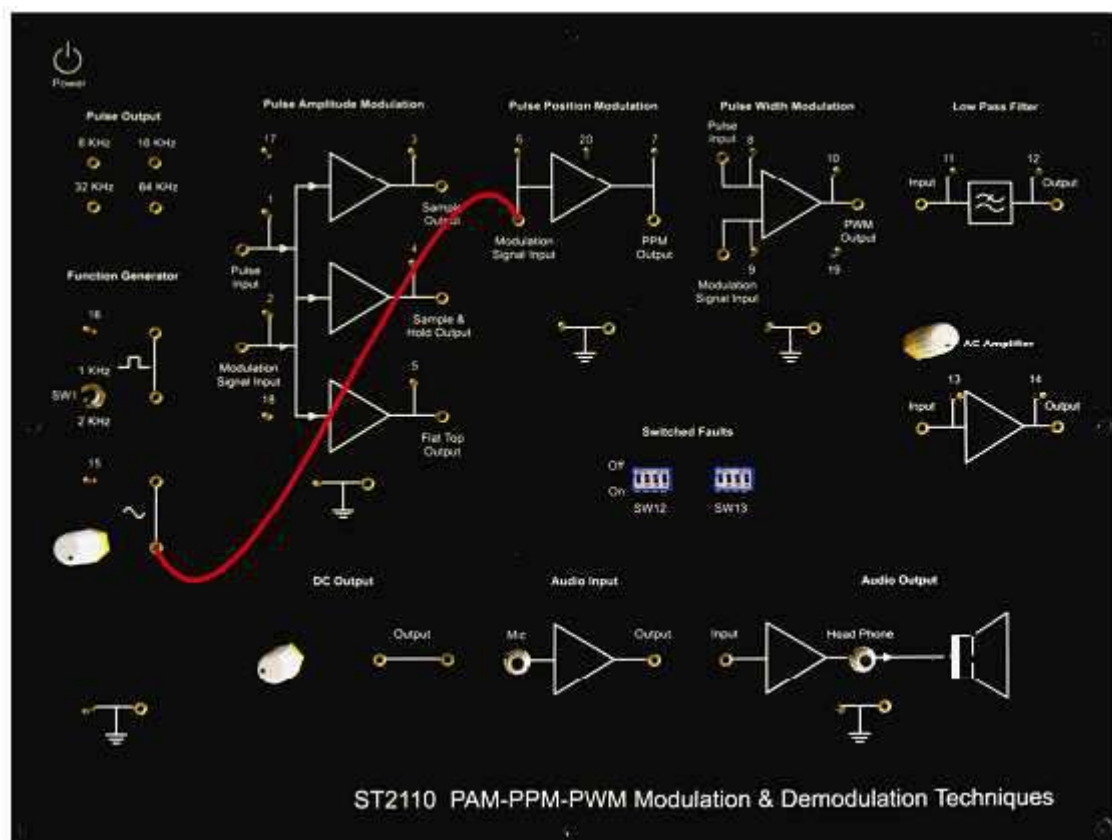

Fig. 5.7a
1. Connect the circuit as shown in Figure 5.7a and also described below for clarity.